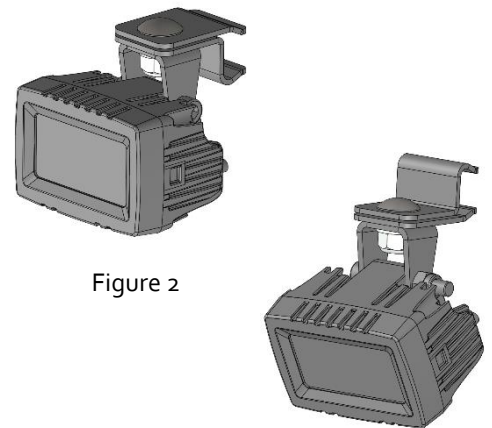
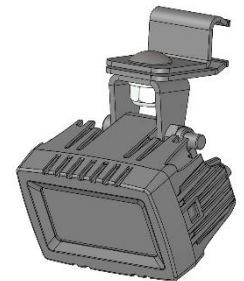

Figure 2
Figure 3
3. The light can be assembled in two configurations, consider which configuration, *Figure 2* or *Figure 3*, is more appropriate for your fitment. Note, *Figure 2* will provide the most compact configuration.